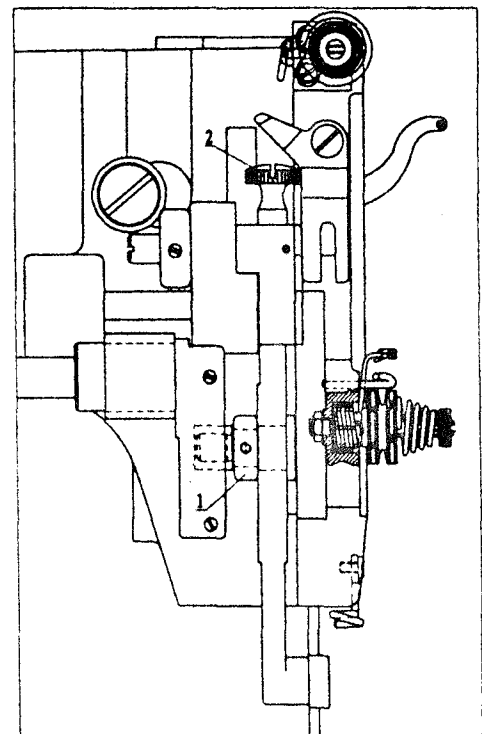

Fig.8
12、 FEEDING AMOUNT ADJUSTMONT FOR TOP FEED (Fig.8)